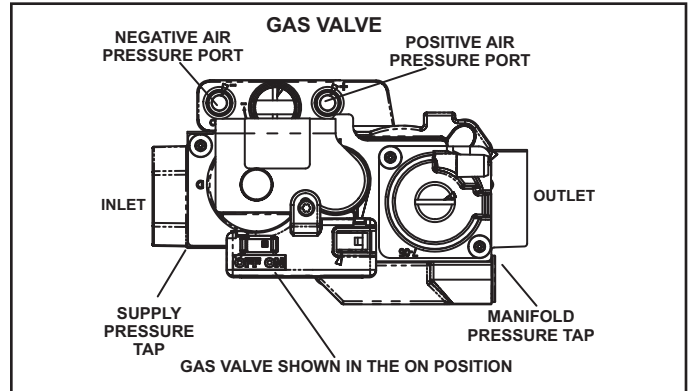

FIGURE 54
Gas Valve Operation (FIGURE 54)
- 6 - Move gas valve switch to **OFF**. See FIGURE 54.
- 8 - Move gas valve switch to **ON**. See FIGURE 54.
- 2 - Remove the threaded plug from the outlet side of the gas valve and install a field-provided barbed fitting. Connect measuring device positive "+" to barbed fitting to measure manifold pressure. See FIGURE 54 for manifold location.